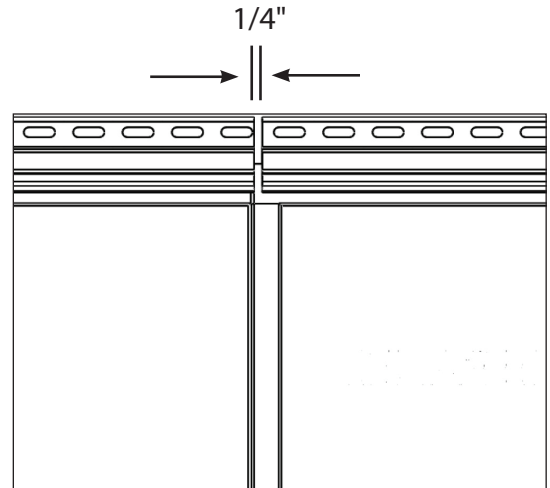

FIGURE 6
- Space each starter strip at least 1/4" (6.4mm) from the next starter strip to allow for expansion and contraction (**FIG 6**).